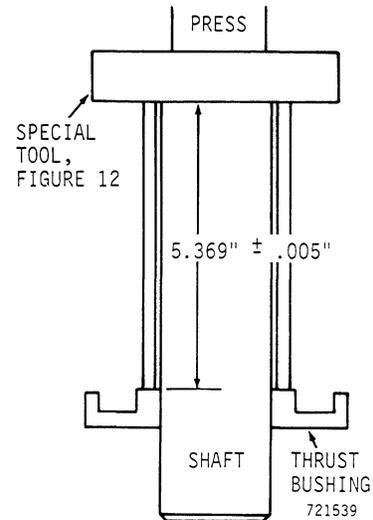

Figure 58 - Installing Thrust Bushing
2. Press the thrust bushing onto the shaft to the dimension shown in Figure 58.